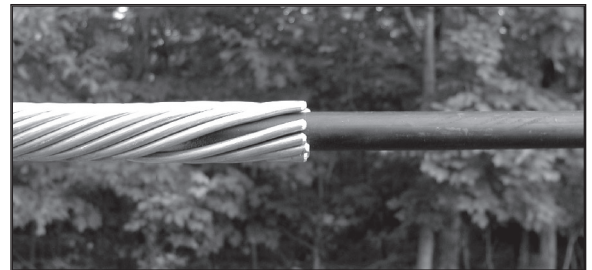
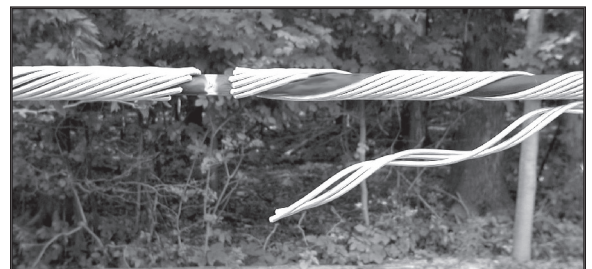
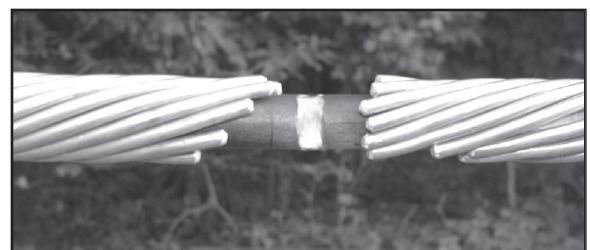

FIGURE 9: RIGHT SRR SET WITH RODS ALIGNED AT EXTREME RIGHT END
FIGURE 10: REMAINING RODS WRAPPED ON TOWARD CENTER MARK
FIGURE 11: TWO SET SRR COMPLETED AT CENTER MARK AREA
3.08 The remaining rods are aligned with the extreme end of the first rod(s), Figure 9. In this case the remaining rods are wrapped from right to left toward the center cable mark, Figure 10. Figure 11 is a view of the completely applied two set SRR near the center mark area.